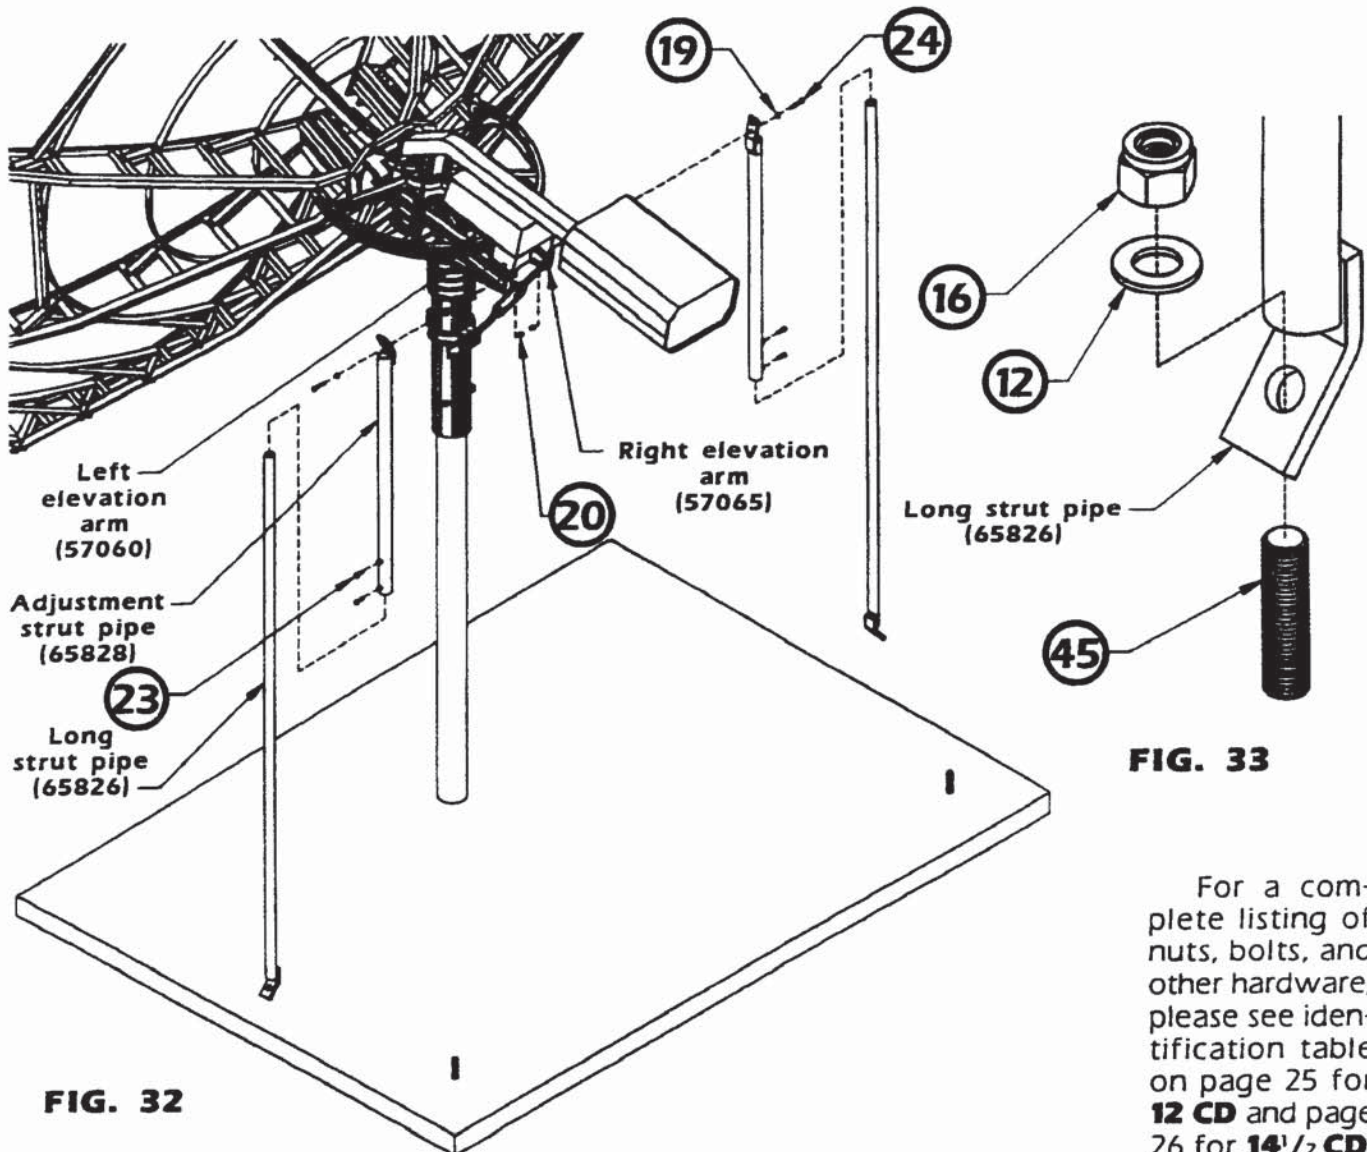

FIG. 33
3. Attach the long strut pipes to the two $\frac{3}{4}$ " x 12' anchor bolts using two $\frac{3}{4}$ " flatwashers and two $\frac{3}{4}$ " nyloc nuts. Do not tighten. (See Fig. 33)